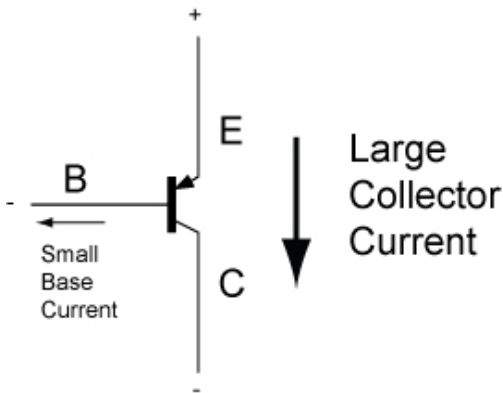

Figure 18: PNP Current
- Transistors are current controlling devices. A very small current flowing through the base (say 1 mA) can control a larger current flowing through the collector/emitter junction (may be 100 mA). See the Figures 18 and 19 below.